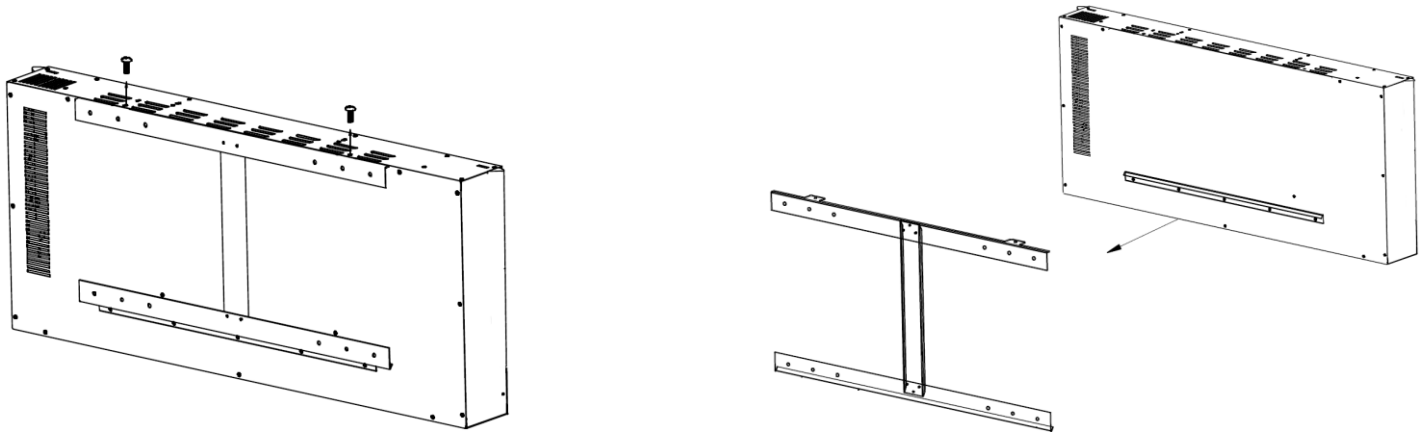

Figure 1
Step 1: Using a screwdriver loosen the two screws that secure the wall mounting bracket to the top of the appliance and remove the wall mounting bracket as shown below (Figure 1).